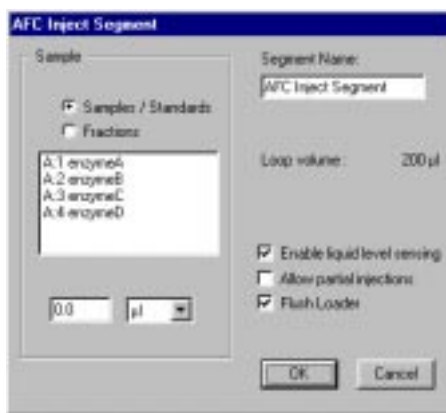

Figure 6-11 AFC 2000 Inject Segment Dialog Box
2. Click the Segment **AI** button to display the AFC 2000 Inject Segment dialog box (Figure 6-11).